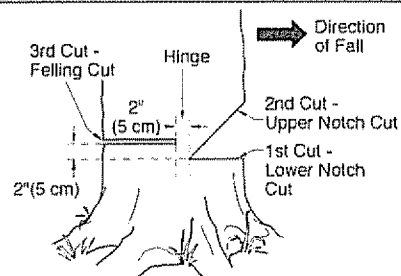

Figure 14 - Felling A Tree
A properly placed felling notch will determine direction tree will fall. Place felling notch on side of tree in direction you want tree to fall (see Figure 14). Follow directions below to create a felling notch.
1. Make lower notch cut as close to ground as possible. Hold saw so guide bar is horizontal. Cut 1/3 the diameter of tree trunk (see Figure 14). **Note:** Always make this horizontal lower notch cut first. If you make this cut second, tree can pinch chain or guide bar.
2. Start upper notch cut the same distance above first cut as first cut is deep. **Example:** If lower notch cut is eight inches deep, start upper notch cut eight inches above it. Cut downward at 45° angle. The upper notch cut should meet end of lower notch cut (see Figure 14).
WARNING: Do not cut all the way through tree. Leave about two inches of tree diameter uncut directly behind felling notch (see Figure 14). This uncut portion acts as a hinge. The hinge helps keep tree from twisting and falling in wrong direction.
1. Make felling cut two inches higher than lower notch cut and on opposite side of tree (see Figure 14). Keep felling cut parallel to lower notch cut.